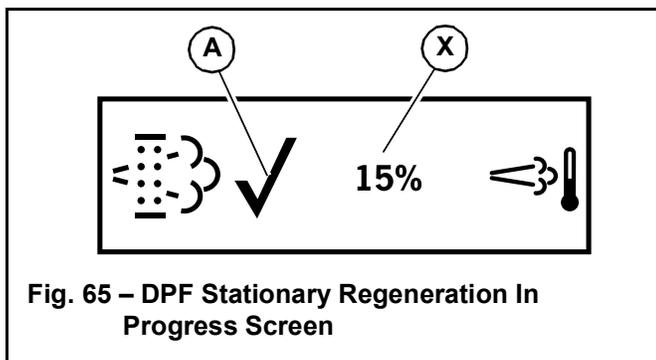

Fig. 65 – DPF Stationary Regeneration In Progress Screen
NOTE: The DPF Stationary Regeneration Progress Screen (Fig. 65) displays with checkmark (A) confirming that stationary regeneration has started.
- Stationary regeneration progress is displayed in the center (X, Fig. 65) of the DPF Stationary Regeneration In Progress Screen. Engine speed automatically advances as required for the stationary regeneration process.